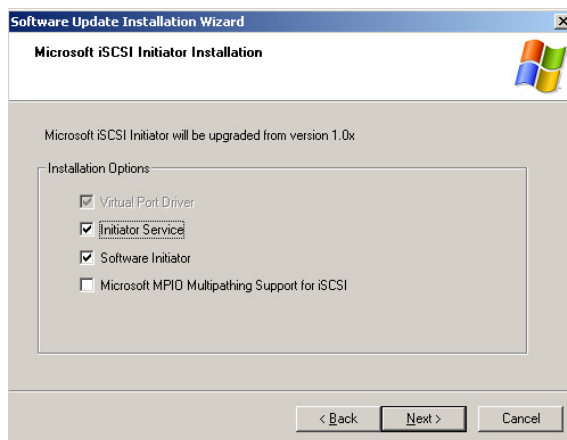

Figure A.2 Microsoft iSCSI Initiator Installation Dialog Box
3. On the Microsoft iSCSI Initiator Installation dialog box (Figure A.2), select **Initiator Service** and **Software Initiator**, and then click **Next**.